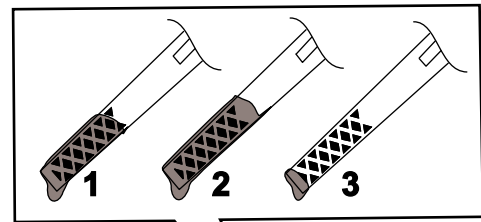

Figure 6
2. Remove the dipstick (Figure 6).
3. **Slowly** pour oil into the oil fill hole, wait a few minutes, and check the oil level on the dipstick by wiping the dipstick clean and then inserting, **but not screwing in**, the oil fill cap into the hole (Figure 6).
Note: Fill the engine crankcase with oil until the dipstick indicates that the engine oil level is correct as shown in Figure 6. If you overfill the engine with oil, remove the excess oil as directed in Changing the Engine Oil.